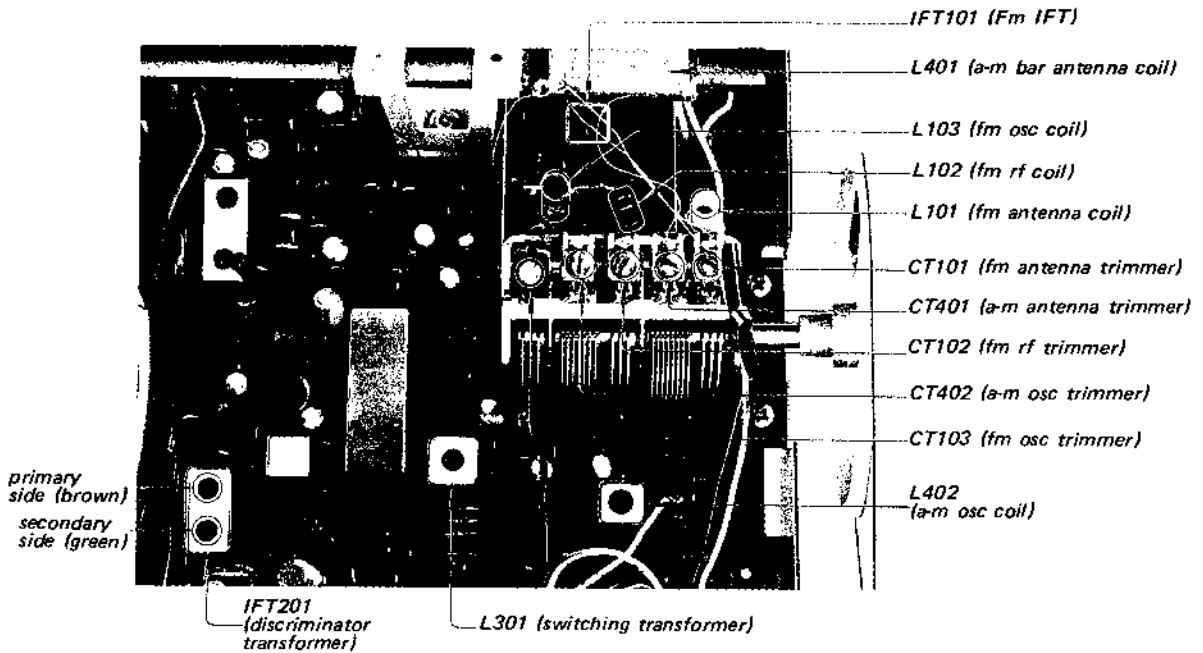

Fig. 3-12. Adjusting parts location
5. Turn the secondary side core (green) of discriminator transformer IFT201 (see Fig. 3-12) with an alignment tool to obtain a minimum indication on the oscilloscope as shown in Fig. 3-6.
7. Turn the core of fm IFT101 and primary side core (brown) of discriminator transformer IFT201 (see Fig. 3-12), to obtain the maximum output.
2. Precisely tune the set to the SSG's carrier frequency then turn the top core of switching transformer L301 (see Fig. 3-12) to obtain maximum output at the left channel.
5. The output-level to residual-level ratio represents the separation. Turn the top core of switching transformer L301 (see Fig. 3-12) for minimum residual level. Check the right channel for separation.